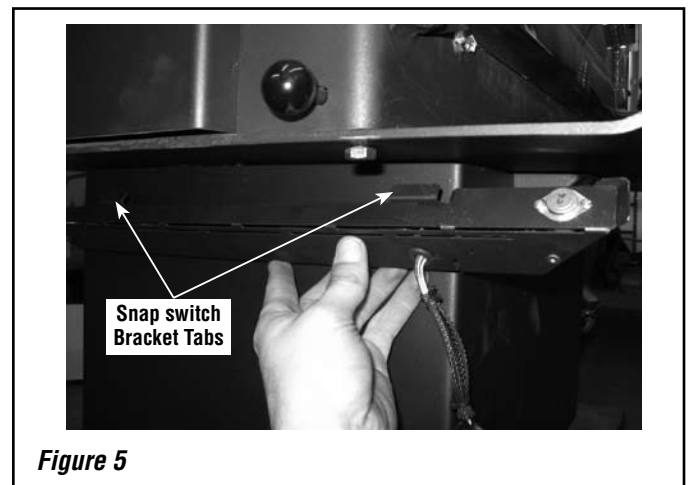

Figure 5
- Step 3.** Insert snap switch bracket mounting tabs between the pedestal and the firebox bottom. **See Figure 5**.